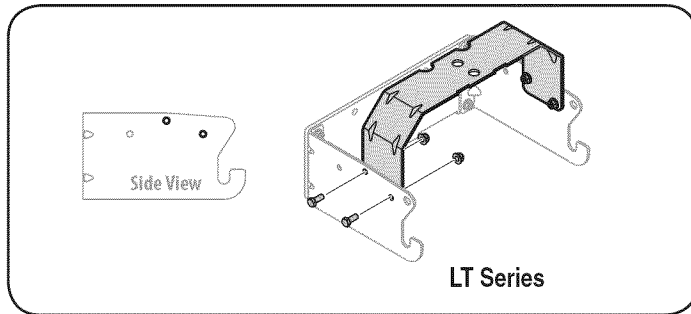

Figure 4
- **For LT Series Models 247.XXXXX:** Mount the hitch support using the holes closest to the mounting hooks. See Fig. 4.